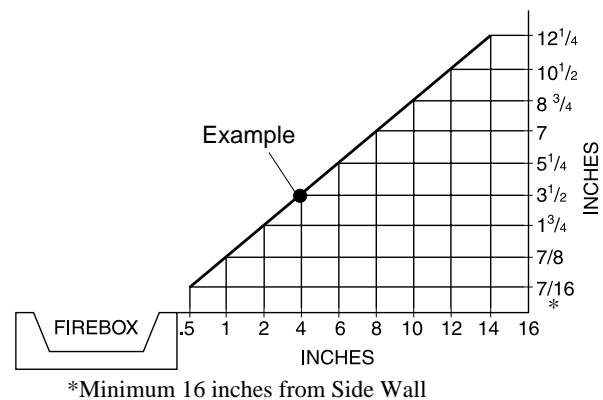

Figure 4 - Minimum Clearance for Combustible to Wall
Minimum Wall and Ceiling Clearances (see Figure 4)
- Clearances from the side of the fireplace cabinet to any combustible material and wall should follow diagram in Figure 4.
Example: The face of a mantel, bookshelf, etc. is made of combustible material and protrudes 3 1/2" from the wall. This combustible material must be 4" from the side of the fireplace cabinet (see Figure 4).